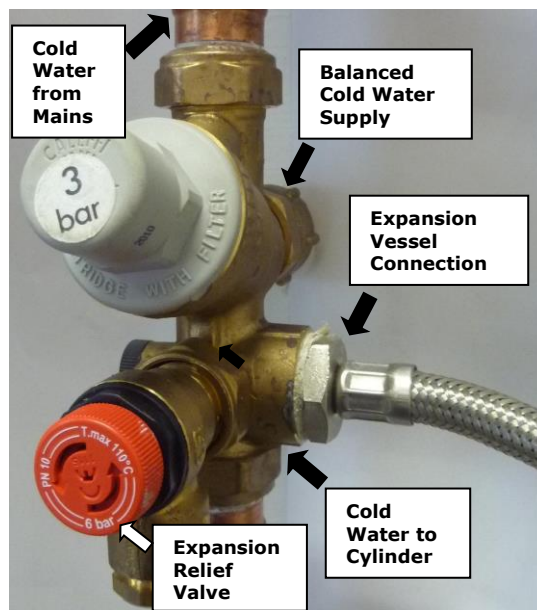

Figure 5: Detail Showing The Connection Of The Expansion Vessel To The Inlet Group
**Note: The expansion vessel must be installed to the side of the expansion relief valve on the inlet group. To do this the blanking plug must be removed and the expansion vessel connected, as shown in Figure 5.**